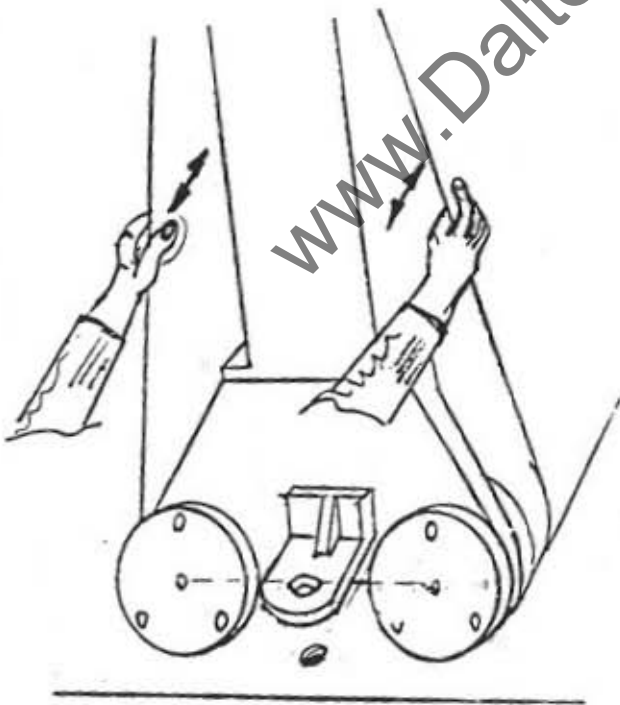

Fig. 8
Ref. Figure 8,9 &10
- B. Shut off air valve switch (3) to the belt tension cylinder.
- C. Remove lock screw (1), turning counter clockwise (fig.8).
- D. Remove spacer block (2).
- H. Replace spacer block and tighten lock screw (fig.8).
- I. Turn "ON" air valve switch (3) for sanding belt tensioning and check that belt edges have clearancer with limit switch fingers on both sides.